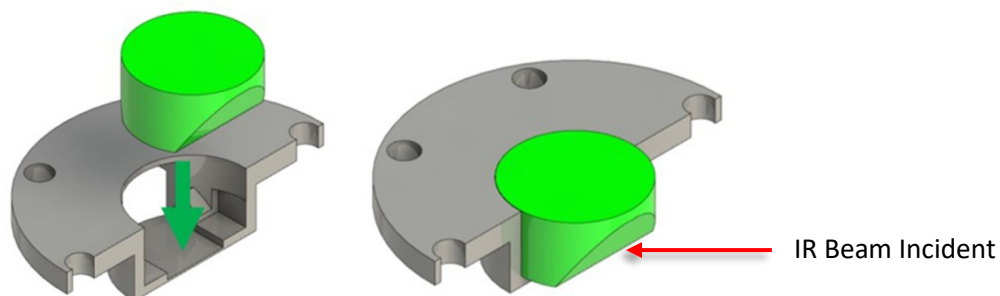

Figure 5. Orientation of FAC in crystal holder
4. Place the Au coated face angled crystal in the holder and place in the VeeMAX III top plate (Figure 5).